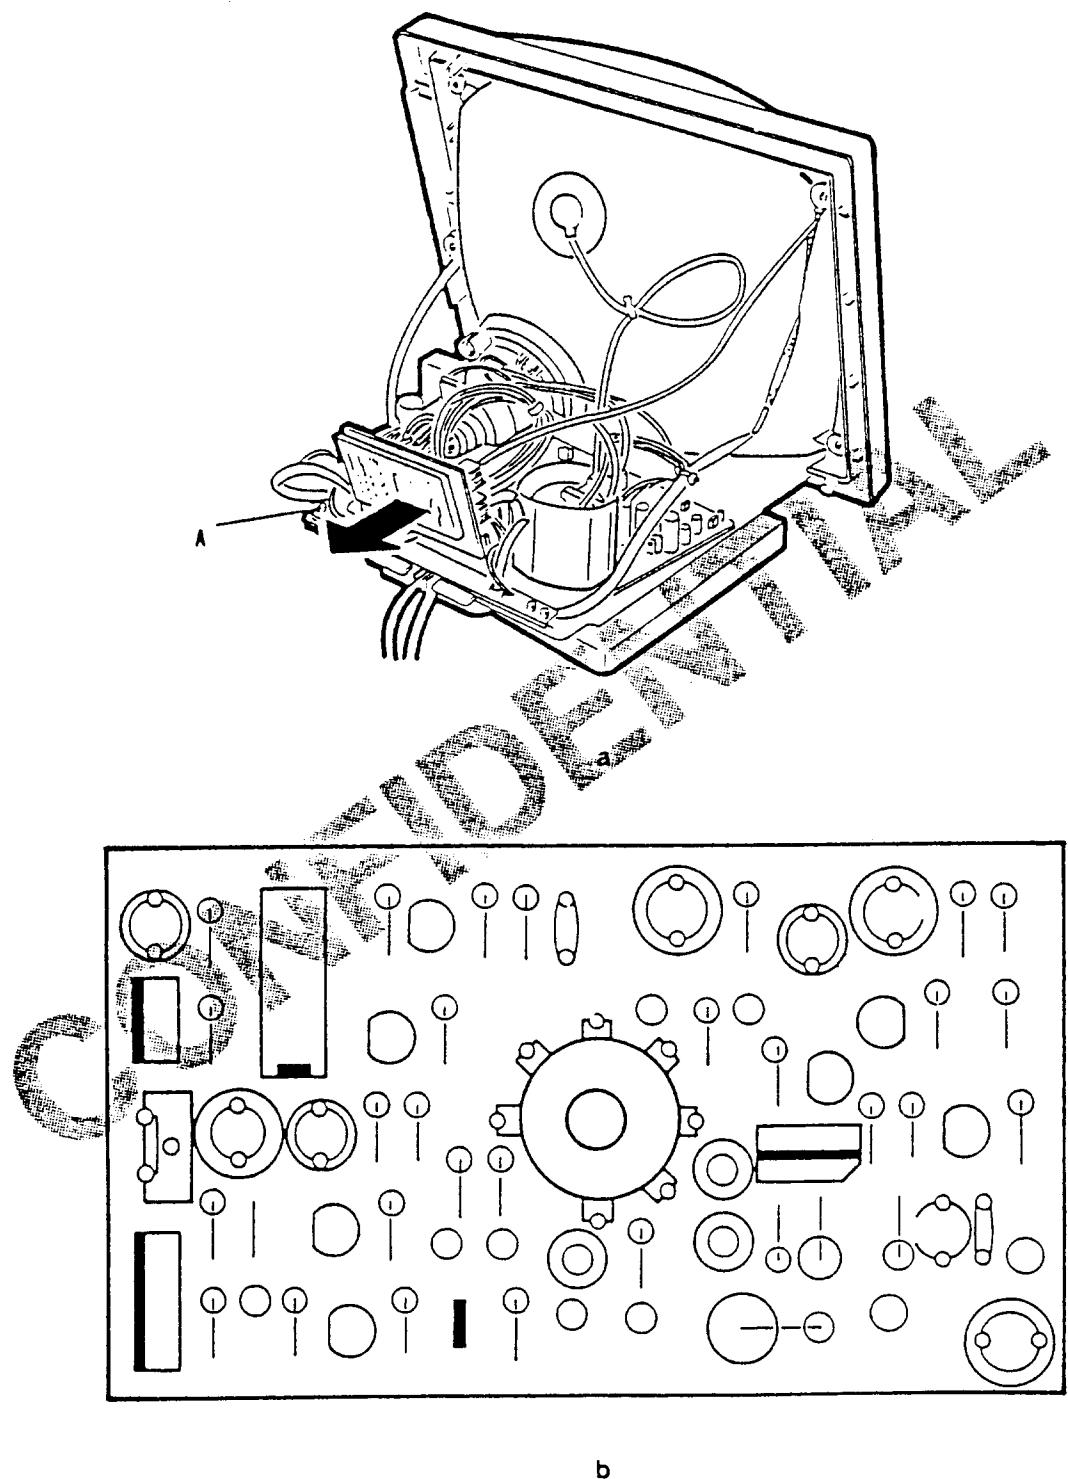

Fig. 1-33 Removal of Video Final Amplifier Board
1. Remove the casing as described in the previous section and then remove the video final amplifier board from the CRT socket in the direction of the arrow (figure 1-33 a).
2. Disconnect fastons SP101-SP109 and FS101 to release the board (figure 1-33 b).
3. Loosen screw A attaching the ground cable on the video chassis (figure 1-33 a).